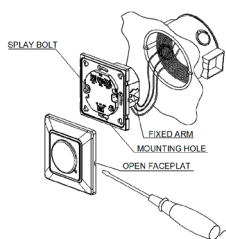

Figure 2
- If you want to install it in circular hole, put the sensor into the hole and tighten the splay bolt on both sides (refer to figure 2). If you want to install in quadrate hole, put the sensor into the hole, fix the screw through the mounting hole (refer to figure 3).